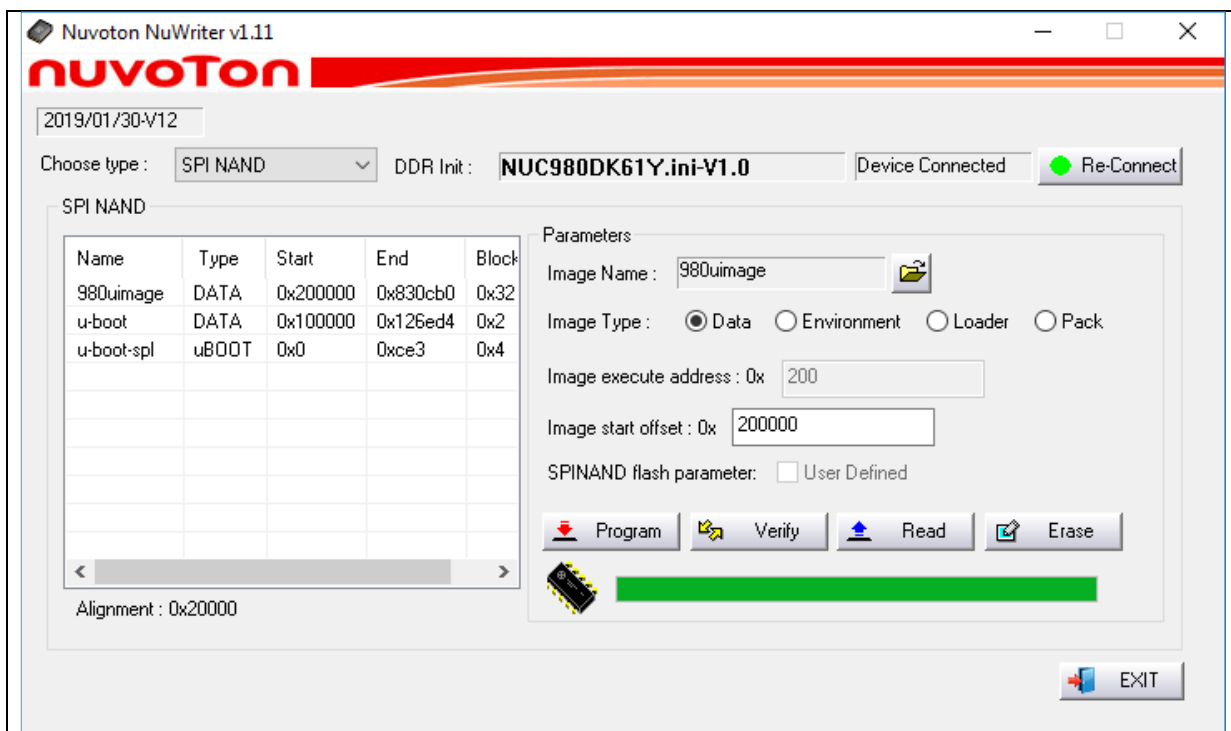

Figure 4-8 Program Kernel Image
6. According to Figure 4-8, following the steps below to program kernel image: